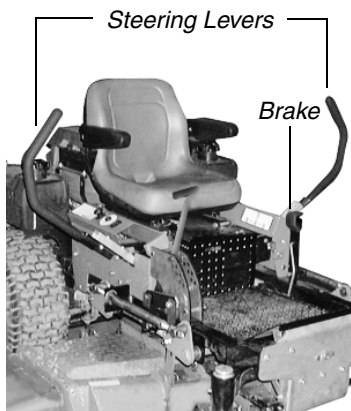

Figure. 3
3. **Left and Right Steering Levers:** (See Figure 3.) These hinged levers open out to the side in the neutral position to permit the operator to be seated or to leave the machine's seat. The operator, when seated, can pull the levers up to the operating position, a comfortable forearm's length away. These levers control all of the movements of the machine. Pushing both levers forward causes the machine to move forward. Pulling both levers back causes the mower to machine backward. Pushing one lever ahead of the other lever causes the traction wheel on the side where the lever is ahead to rotate faster than the other traction wheel, making the machine turn toward the side where the lever is behind. When one lever is pushed forward and the other lever pulled back the same amount, one traction wheel will turn in reverse and the machine will turn within its own length.
5. **Parking Brake:** (See Figure 3.) Located on the left side of the traction unit. The handle is an overcenter lever which applies the drum-type brake on each drive wheel when the handle is pulled to the rear. The brake must be engaged in order to start the engine.